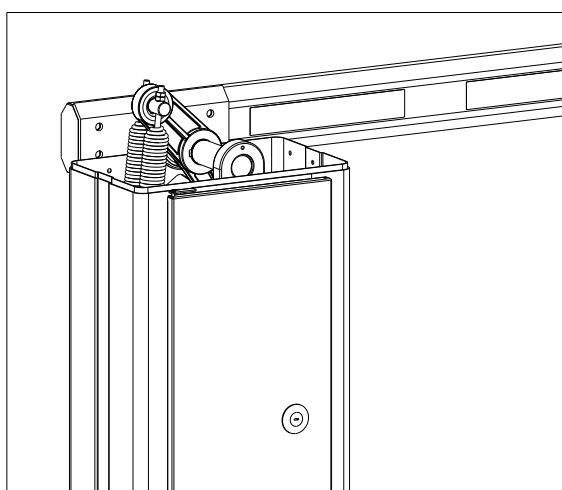
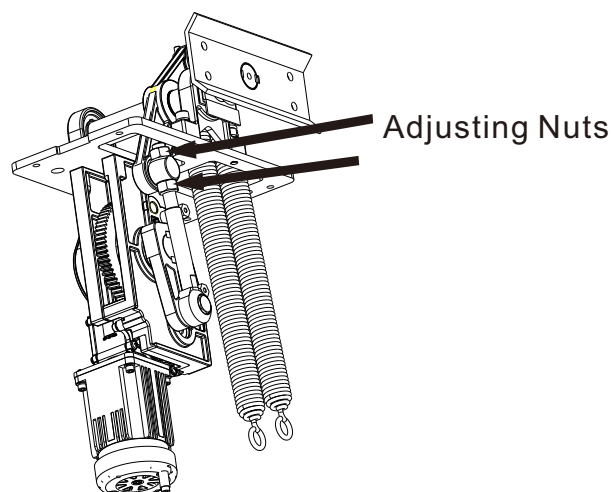

fig13
fig14
D.2 Boom need to be longer (fig12)(fig13)(fig14)
add the spring quantity according to Appendix spring list, then adjust balance according to fig13 and fig14